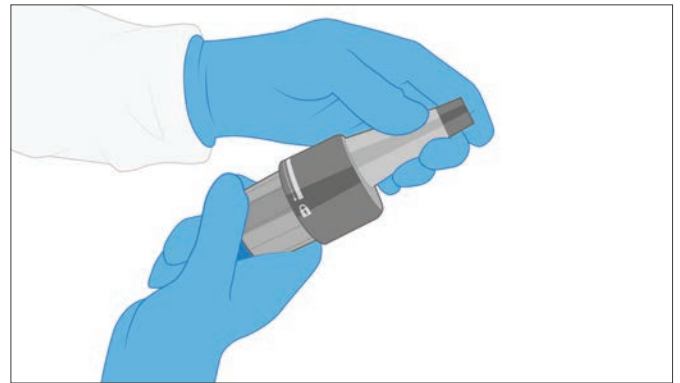

Figure 3
Make sure that the locking sleeve (2) on the saw attachment is set to the unlock position  (Fig. 3). Insert the saw attachment in any position into the attachment coupling of the handpiece until it locks into place. To prevent vibrations during operation and to increase the sawing capacity, additional manual tightening of the attachment onto the handpiece is required. To achieve this, turn the locking sleeve (2) into the lock position until you feel that the coupling pins engage into the handpiece (approx. half a revolution).